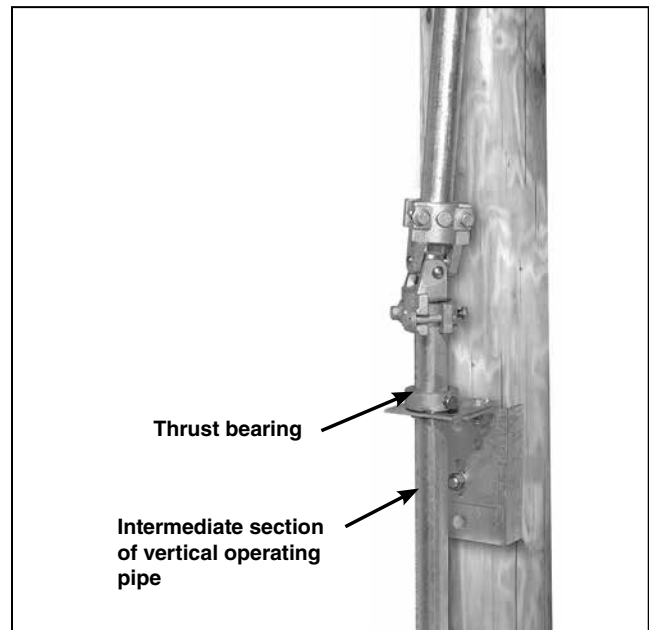

Figure 18. Install the intermediate section of the vertical operating pipe.
STEP 16. Pass the next section of vertical operating pipe up through the guide bearing and then through the thrust bearing. The thrust bearing will rest on the guide bearing and support the operating pipe. See Figure 18.